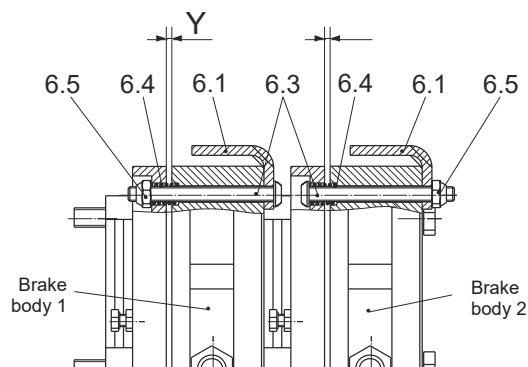

Fig. 7 (Sizes 4 to 300)
Hand Release Installation (Figs. 7 and 7a) Manufacturer-side
On the Sizes 4 to 300, the installation procedure is different for brake bodies 1 and 2 (see Fig. 7). If the brake is installed in the wrong order, it could fail.
6. Tighten the hexagon nuts (6.5) evenly, until the specified adjustment dimension "Y" (Fig. 7 and Table 5) is reached.
Single Hand Release Installation (Figs. 7 – 8) Manufacturer-side
The installation procedure is different for brake bodies 1 and 2 (see Figs. 7 and 8). If the brake is installed in the wrong order, it could fail.
7. Tighten the hexagon nuts (6.5) evenly, until the specified adjustment dimension "Y" (Fig. 7 and Table 5) is reached.